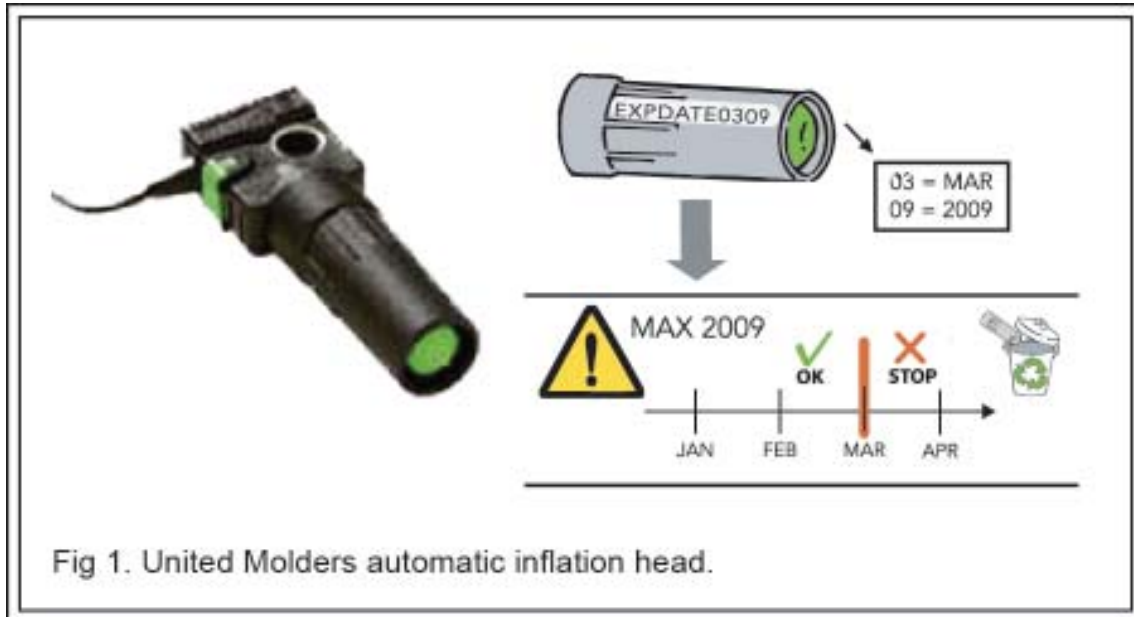

Fig 1. United Molders automatic inflation head.
a. For automatic models fitted with United Molders automatic inflation head with water sensing cartridge (Fig 1) UML cartridge has 3 year lifespan and is printed with an expiry date.